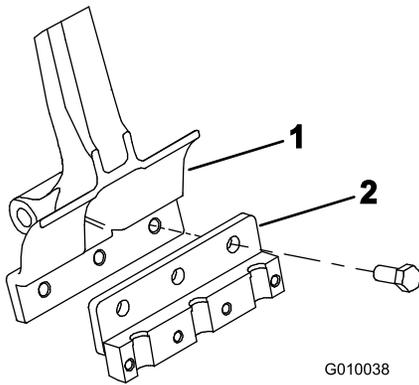

Figure 23
2. Mount a tine holder to each tine arm with 3 bolts (1/2 x 1-1/4 inches) (Figure 23). Torque the bolts to 75 ft-lb (101.6 N-m).